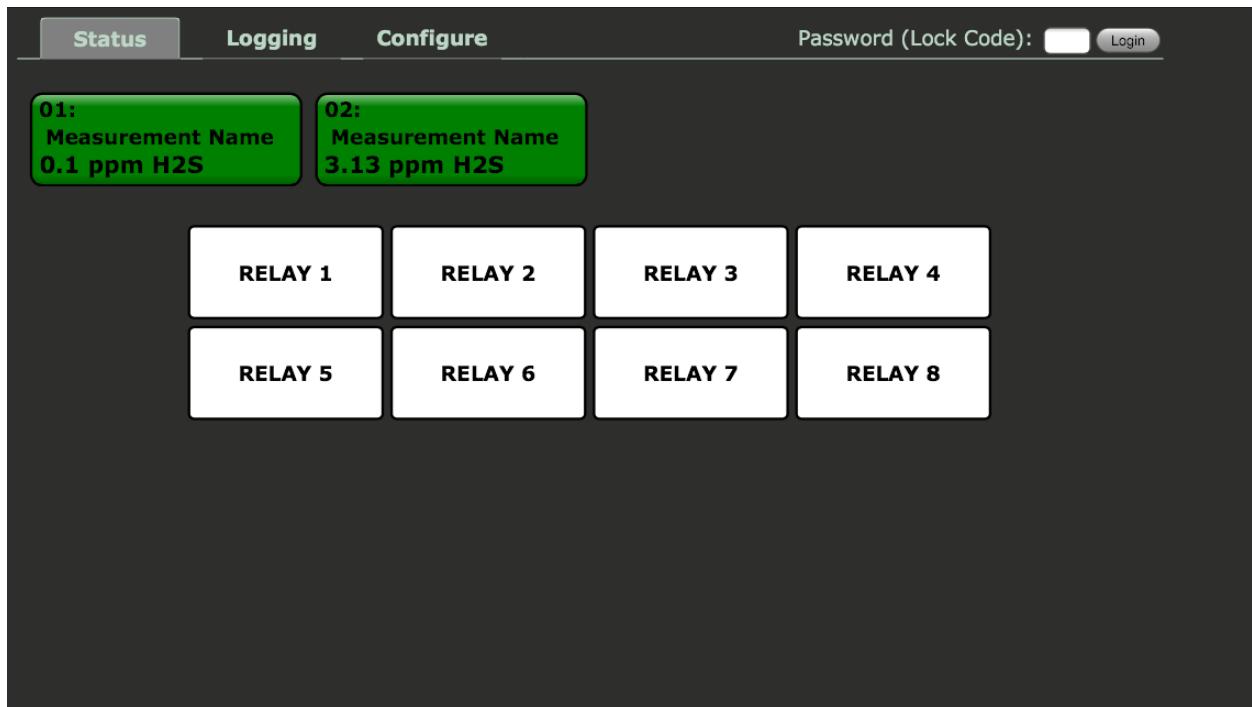

Figure 5-5 Webpage Status Screen (No Alarms)
- The display box is red (Figure 5-5).